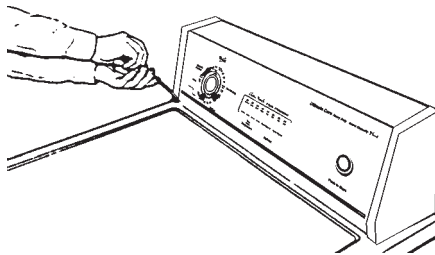

Fig. 3-5
1. Remove the two screws at the base of the console. (Fig. 3-5)